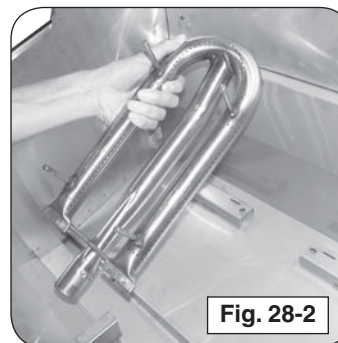

Fig. 28-2
3. Carefully lift the burner from the burner support and out from the hole in the forward fire wall (see Fig. 28-2).